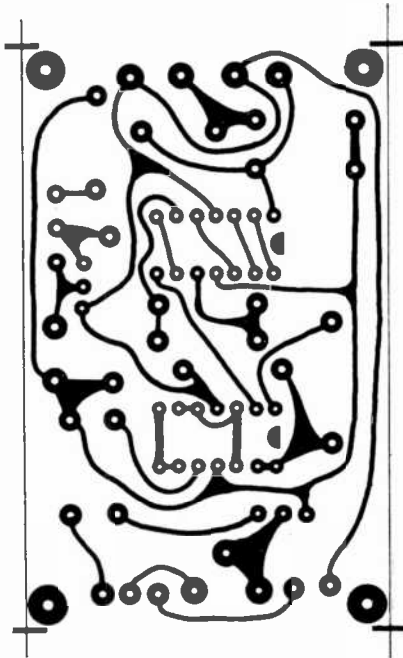

Fig. 2. Actual size printed-board foil pattern for the Op-Tach. Note the semi-circular end identifiers for the IC's.
**Construction.** The schematic diagram for the Op-Tach is shown in Fig. 1. As with any project using integrated circuits, you will be ahead of the game if you use a printed circuit board. You can make your own, using Fig. 2 as a guide,